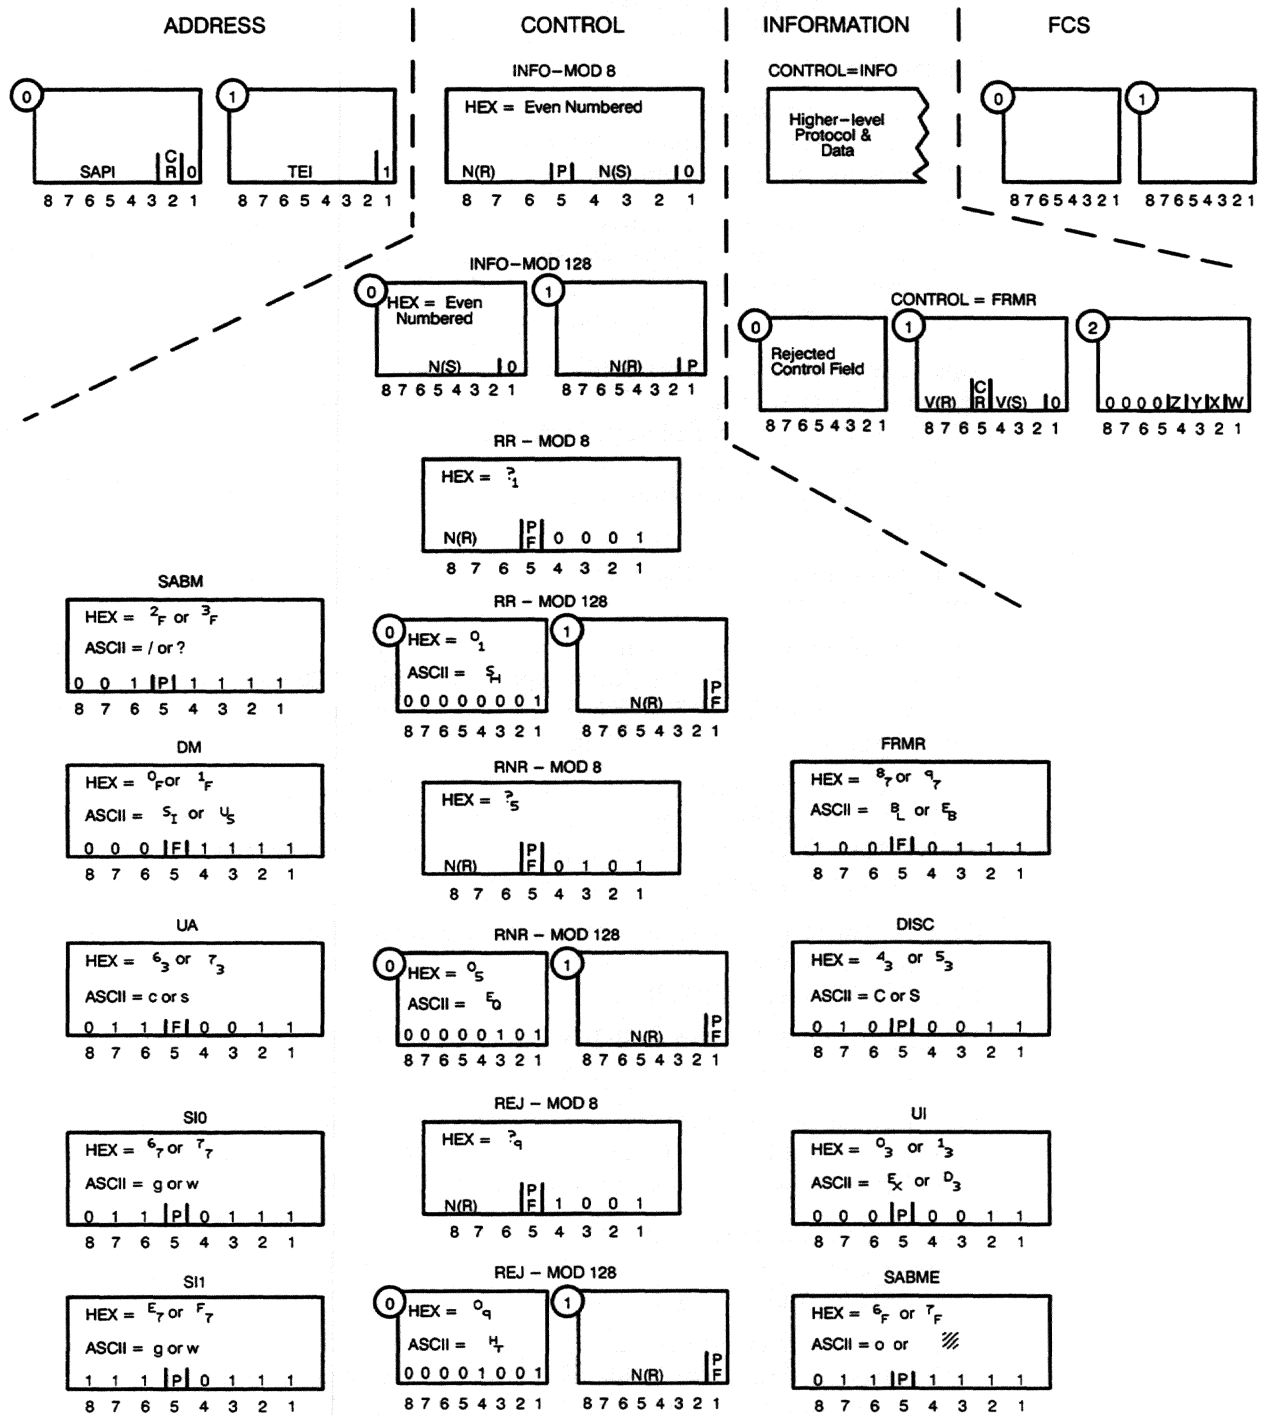

Figure 43-4 Frame fields in LAPD.
2. **SAPI.** The Service Access Point Identifier (**SAPI**) is given in the next column. The SAPI is a network link—station address that appears in a six—bit field in the first frame—address byte: see Figure 43-4.
3. *TEI*. The Terminal Endpoint Identifier (TEI) is the address of a link station on the user side. It occupies seven bits in the second frame byte inside the leading flag (see Figure 43-4).
5. *Type*. The mnemonic (abbreviated) names for thirteen frame types as they appear in the **TYPE** column of the protocol trace are shown in Figure 43-4 under "CONTROL." The control field, therefore, indicates the frame type. If a control octet does not fit any of the patterns in the figure, the frame is listed in the **TYPE** column as UNKWN followed by the hexadecimal value of the control byte: UNKWN=47.
6. *N(R) and N(S)*. One column on the frame-level trace is devoted to N(R) values, and one column to N(S). The frame types that include N(R) or N(S) fields in their control fields are indicated in Figure 43-4. N(R) and N(S) occupy three bits each in modulo 8, seven bits each in modulo 128.
7. *P and F*. The status of the poll or the final bit is given in the **P/F** column. Whether this bit is the P- or F-bit is indicated for most frame types in Figure 43-4 (under "CONTROL").